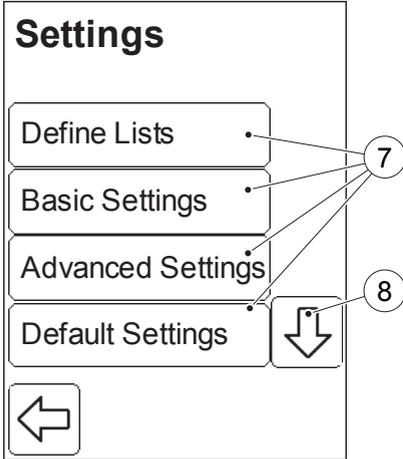

FIGURE 4-4
If the operator's user level permits access to Settings, FIGURE 4-4 will be displayed.
- c) Enter the Settings Password (default value is “0000”), either directly on the Display via the Text mode (2) and Numeric mode (3) buttons, or with the Barcode Scanner via the Barcode Scanner button (4).
- d) If the wrong password is entered, *FIGURE 4-3* will be displayed. If the correct password is entered *FIGURE 4-4* will be displayed.
- e) Pressing the Previous image button (5) will result in a return to, either the Main Menu (if the operator’s user level does not permit access to the Settings), or *FIGURE 4-2* (if the Operator ID is set to “Not Used”). Pressing the Confirm button (6) allows the Settings to be viewed only. *FIGURE 4-4* will be displayed.
When the Define Lists button is pressed in the Settings menu (see *FIGURE 4-4*), the following Define Lists categories (1) are displayed: